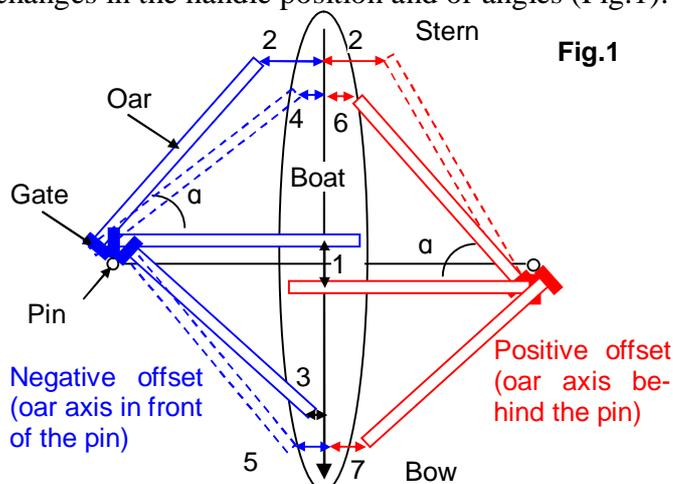

Fig.1
It is possible to design swivels with different offsets, in front of the pin (closer to the stern, negative offset), or behind the pin (closer to the bow, positive offset), or zero offset. This would lead to the following changes in the handle position and or angles (Fig.1):
1. In saggital plane (longitudinal axis of the boat), offsetting the oar axis is similar to moving the pin relative to the boat in the same direction (Fig.1, 1), so the stretcher needs to be moved to preserve the oar angles.
2. In frontal plane (sideward), negative offset moves the handle position outwards at catch (2, works similar to wider span/spread) and inwards at finish (3). If the distances between handles at catch and finish are preserved, then the angle at catch must be shorter (4) and the finish angle, longer (5). If catch angles (55-70deg) are usually larger than finish angles (30-45 deg), offsetting oars in front of the pin would make them more even.
3. Positive offset moves the handle position inwards at catch (6, works similar to narrower span/spread) and outwards at finish (7). If the rower preserves distances between handles at catch and finish, this would lead to a longer angle at catch and a shorter angle at finish, i.e., would increase this difference.